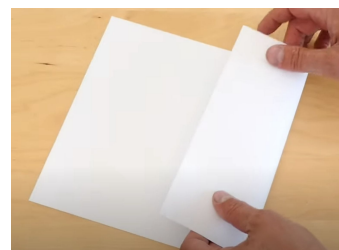

Figure 6: No need to be exact!
1. Take a piece of printer paper and fold it *about* 3" along the longer edge ("hamburger" style), so that you are left with a square shaped piece of paper (**see figure 6**)